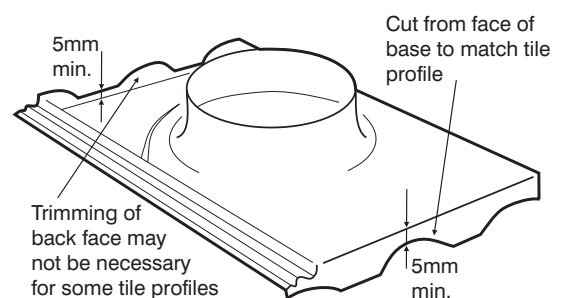

Figure 3.
2. Cut the front face of the Tile Fan base with appropriate cutting device. (See Figure 3.)
3. For some tile profiles, it may be necessary to cut the back face of the Tile Fan to suit the underside of the tile. Do not cut the full depth of the back face; this will ensure that the Tile Fan is still weatherproof. (See Figure 3.)